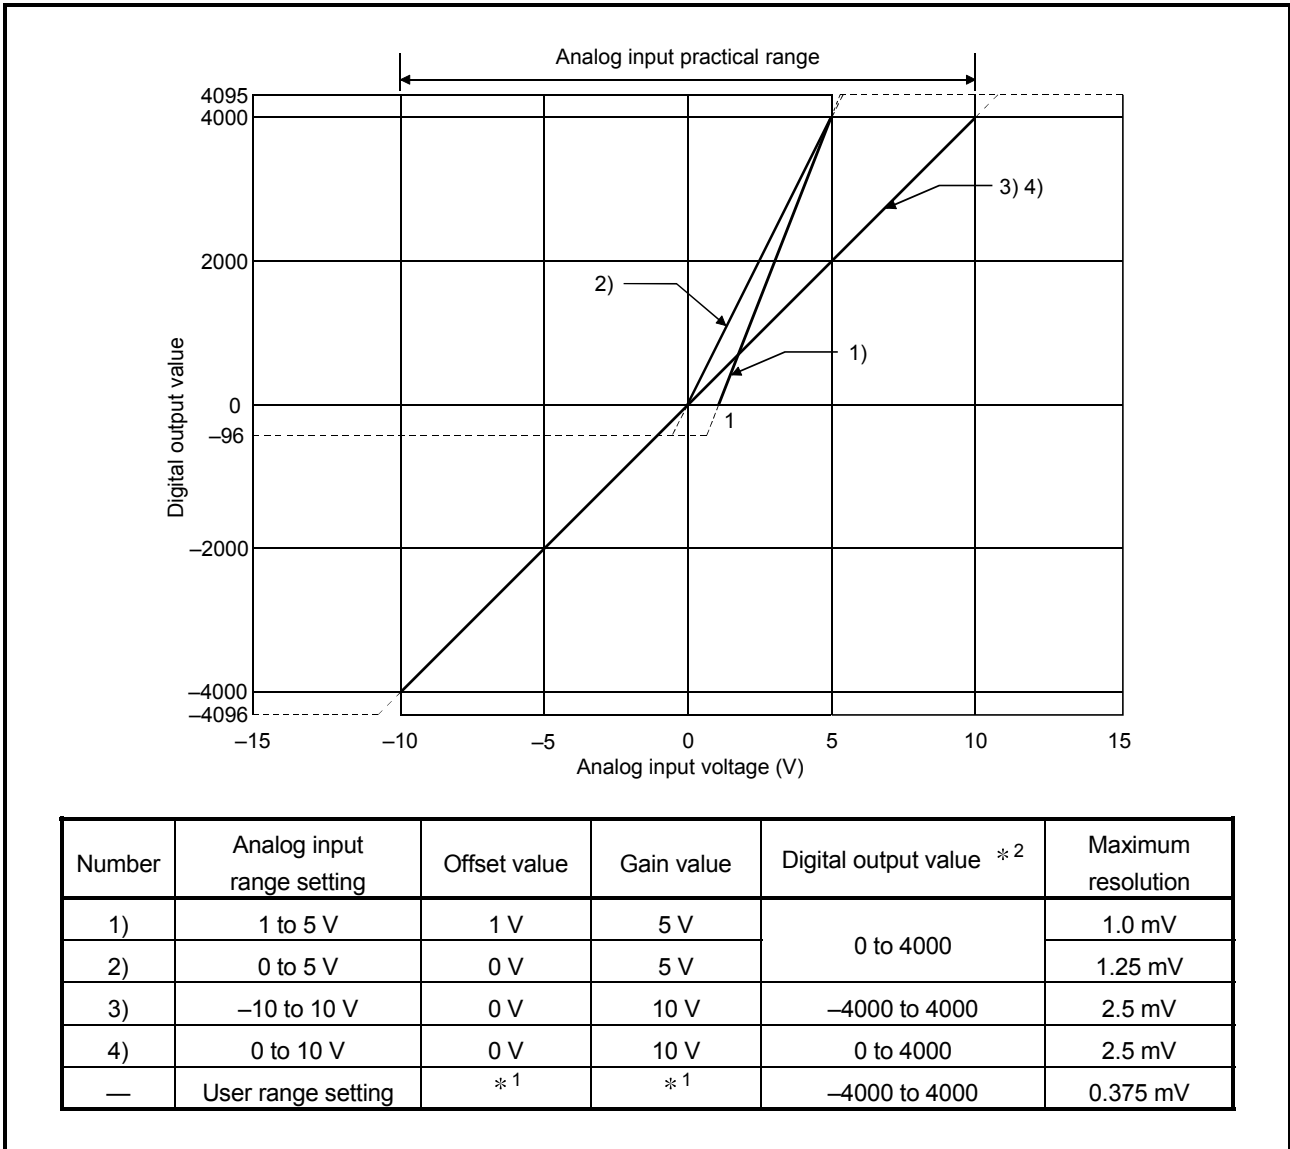

Figure 3.1 Voltage input characteristic in normal resolution mode
Figure 3.1 shows a graph of the voltage input characteristic in normal resolution mode.
<p>(1) Set within the analog input range and digital output range for each input range. If these ranges are exceeded, the maximum resolution and accuracy may not fall within the performance specifications. (Avoid using the dotted line area shown in Figures 3.1 and 3.2.)</p> <p>(2) When inputting an analog voltage out of the range between -15 to 15V, the elements may be damaged.</p> <p>(3) Set the offset/gain values for the user range setting *¹ within a range in which the following conditions are met.</p> <p>(a) Offset value, gain value setting range: -10.0 to 10.0V</p> <p>(b) Choose either one of the following formulas, which corresponds to the resolution mode to be set.</p> <p>1) Normal resolution mode: { (Gain value) - (Offset value) } > 1.5V</p> <p>2) High resolution mode: { (Gain value) - (Offset value) } ≥ 4.0V</p> <p>(c) { (Gain value) - (Offset value) } ≤ 10.0V</p> <p>(4) When an analog value that exceeds the range for Digital output value *² is entered, Digital output value will be fixed at the maximum or minimum value.</p>